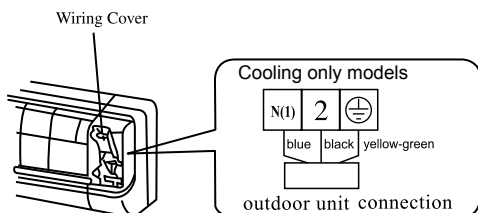

Fig.6
2. Remove the wiring cover Fig.6.